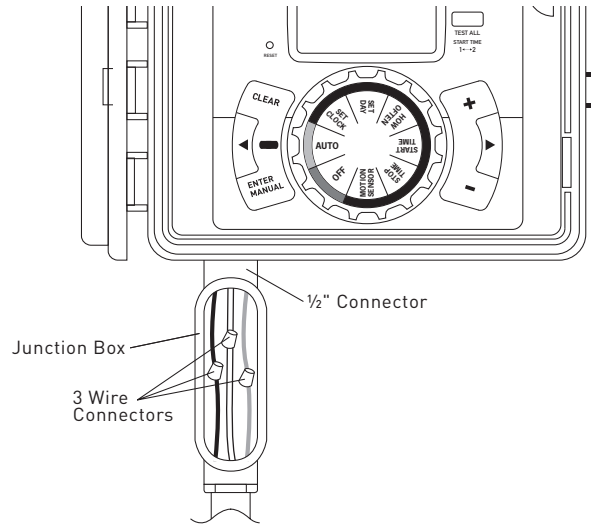

Figure 5: Using a Junction Box
Outdoor Locations – If a covered Ground Circuit Fault Interrupter (GFCI) outlet is available, insert the power cord into the 110V electrical outlet. If no outlet is available, the controller must have the wiring permanently installed. See Figure 5.
- Connect the junction box to the controller using a 1/2 inch nipple (junction box and nipple not included). Connect the source power conduit to the entrance of the junction box, following all the appropriate codes. See Figure 5.